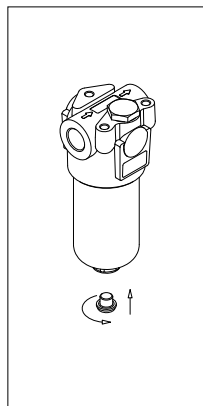

fig. 13
- (Fig. 13) Screw the drain plug in referring to the tightening torque table in paragraph 3